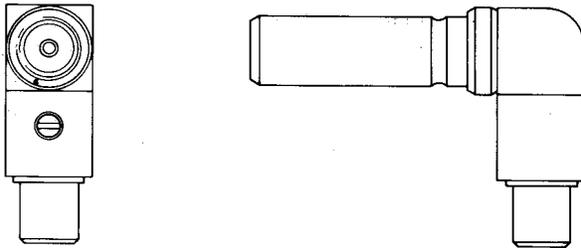

Fig. 1—515A Plug
2.01 515A: The 515A (Fig. 1) is a right angle, coaxial-type plug that is arranged for solderless shield connection to a 728A cable by means of a sleeve (KS-15712, L5). The 515A plug mates with the 560A- and similar-type jacks and is used on the L5 Coaxial System.